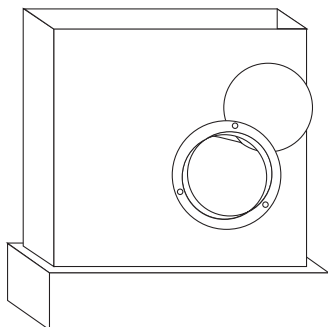

Figure 12
5. Mount the bypass collar and damper (fig. 12) using the remaining three screws from the installation package. The air damper should be mounted in the open position. The top screw secures the damper.